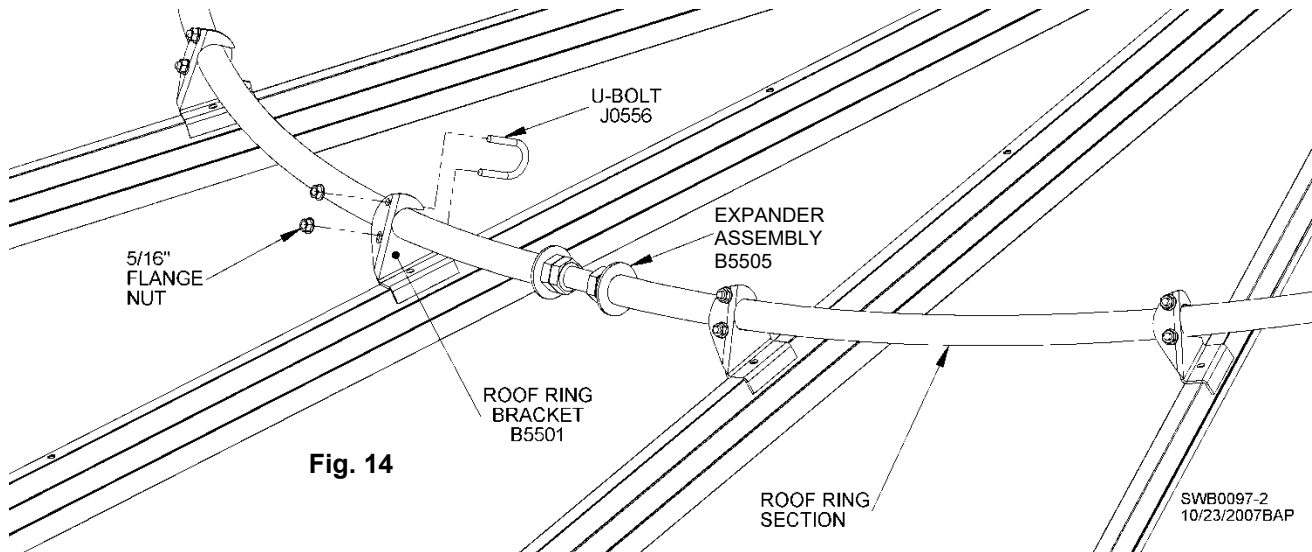
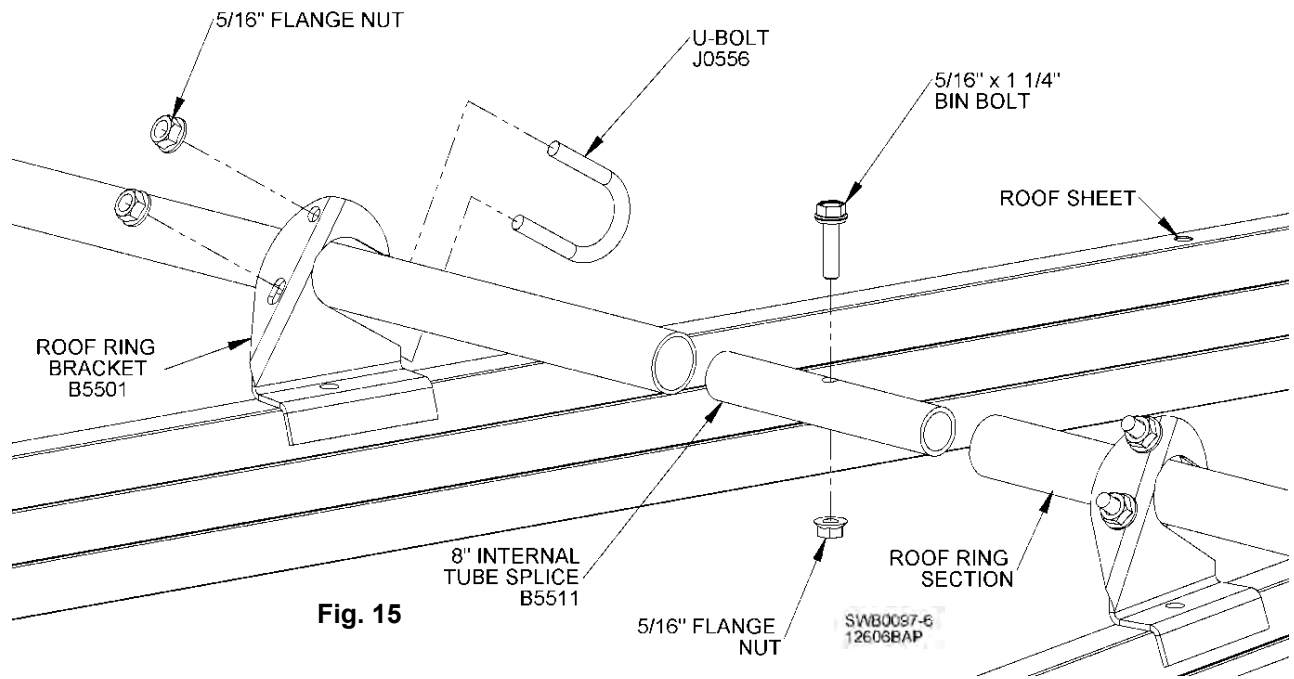
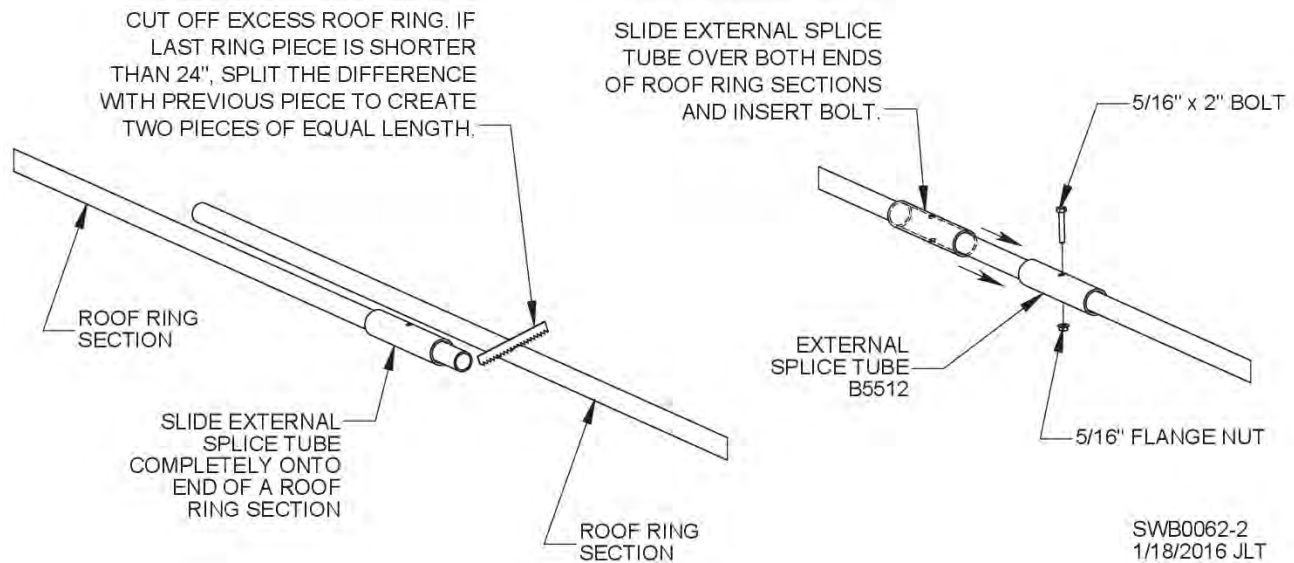

Fig. 14
Fig. 15
Fig. 16
Roof ring brackets and roof ladder rungs are attached to roof sheets using 5/16 x 1-1/4" bolts, 5/16" flange nuts, and neoprene washers. See Fig. 10. Washers slip onto bolts that have been inserted through roof ladder rungs and will be compressed between roof sheet rib and roof ladder rung to ensure watertight seal. See Fig. 10. Roof ring bracket, roof ring, and U-bolt assemblies are shown in Figs. 14 and 15.
Pre-assemble expander assemblies (1 x 10" threaded rod, 1" nuts and 1" washers) before installing ring. Run all four (4) 1" nuts to center of each threaded expansion rod. Position washers outside of nuts. Nuts and washers will later be run outward after all sections of ring have been assembled. See Fig. 14.
Place first expander assembly near roof ladder. Center first ring section on roof ladder sheet. Evenly space remaining expanders around roof ring as ring sections are placed into bent roof ring brackets. Install internal tube splices (B5511) at all other locations except last one, where an external splice tube will be used. Fig. 15 shows 8" internal tube splice using a 5/16 x 1-1/4" bin bolt as a stopper. Fig. 16 shows 8" external splice tube (B5512) using 5/16 x 2" bolt. Place 5/16" U-bolts on all roof ring mounting brackets. See Figs. 14 and 15. Do not tighten U-bolt flange nuts until later after roof has been crowned.
External splice tube will be installed after all other splices and expanders are in place and ring sections are trimmed. If final section of roof ring will be less than 24" long, split the difference with previously assembled roof ring section and create two sections of equal length. See Fig. 16. Ensure there is a 3/8" gap between ring sections for bolt that will be inserted. It may be necessary to deburr cut edges.